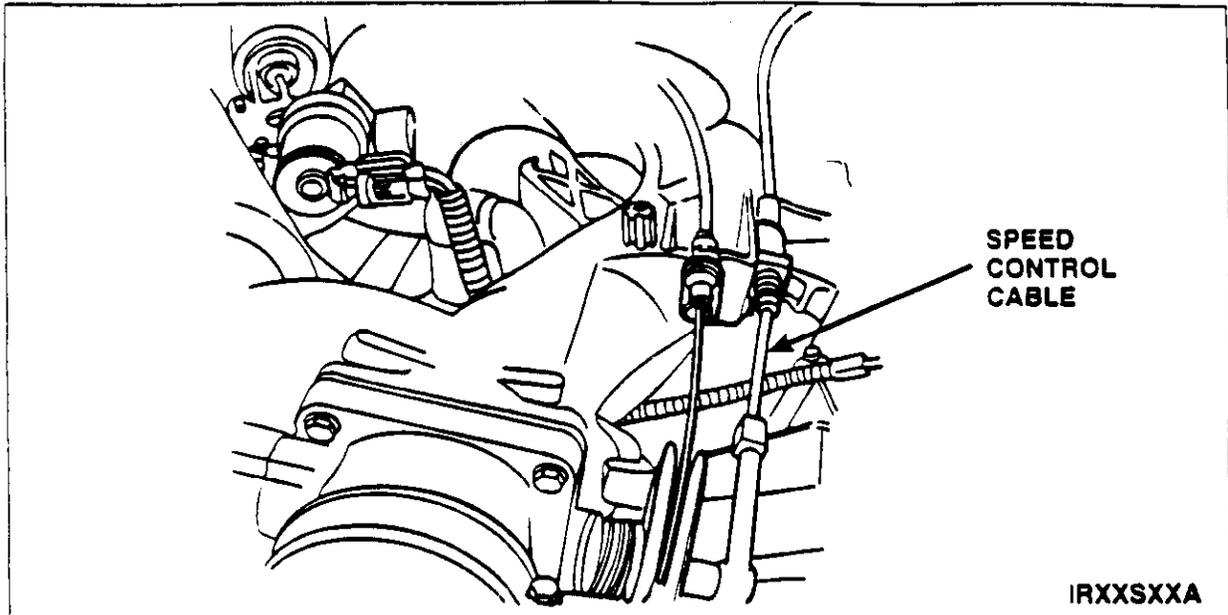

FIGURE 6
- Remove speed control cable retainer from upper intake manifold bracket. See Figure 6.